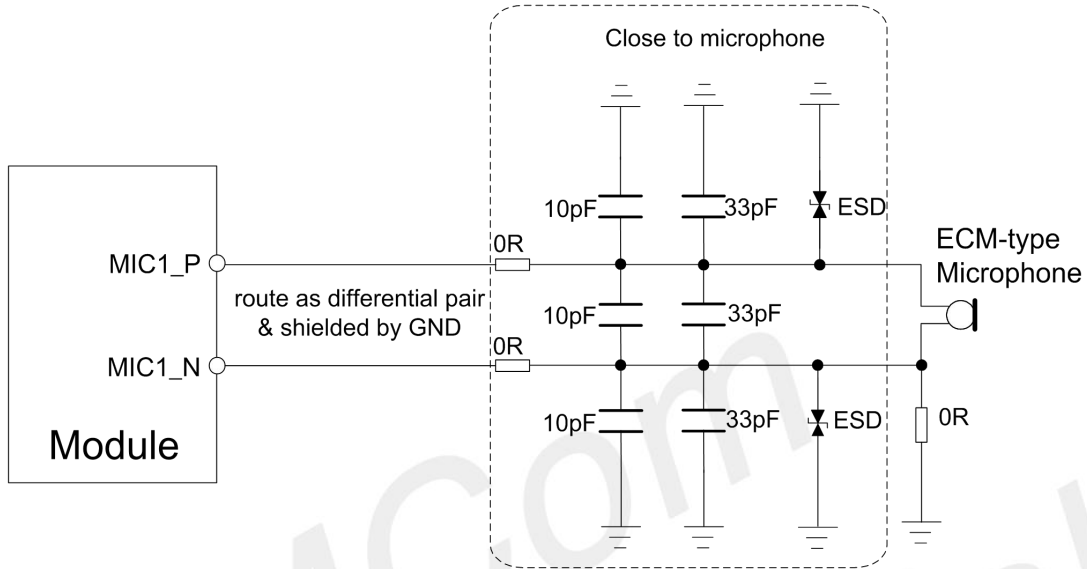

Figure 20: ECM-type microphone reference circuit
A 100K Ω pull-down resistor is integrated at HPH_L pin, which could be used for mechanical insertion or removal detection through HS_DET pin. Figure 20 shows the reference circuit for normally-closed (NC) type headset jack.